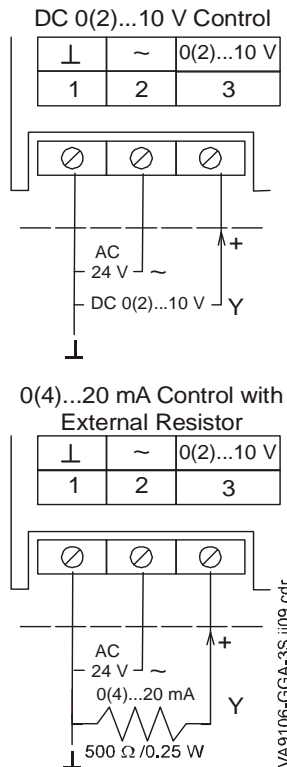

Figure 12: VA9104-GGA-3S Control Wiring Diagram
The VA9104-GGA Series Electric Non-Spring Return valve actuators require AC 24 V power and a DC 0(2) to 10 V or 0(4) to 20 mA controller input signal. These electric actuators include M3 screw terminals; see Figure 12 for proper wiring.